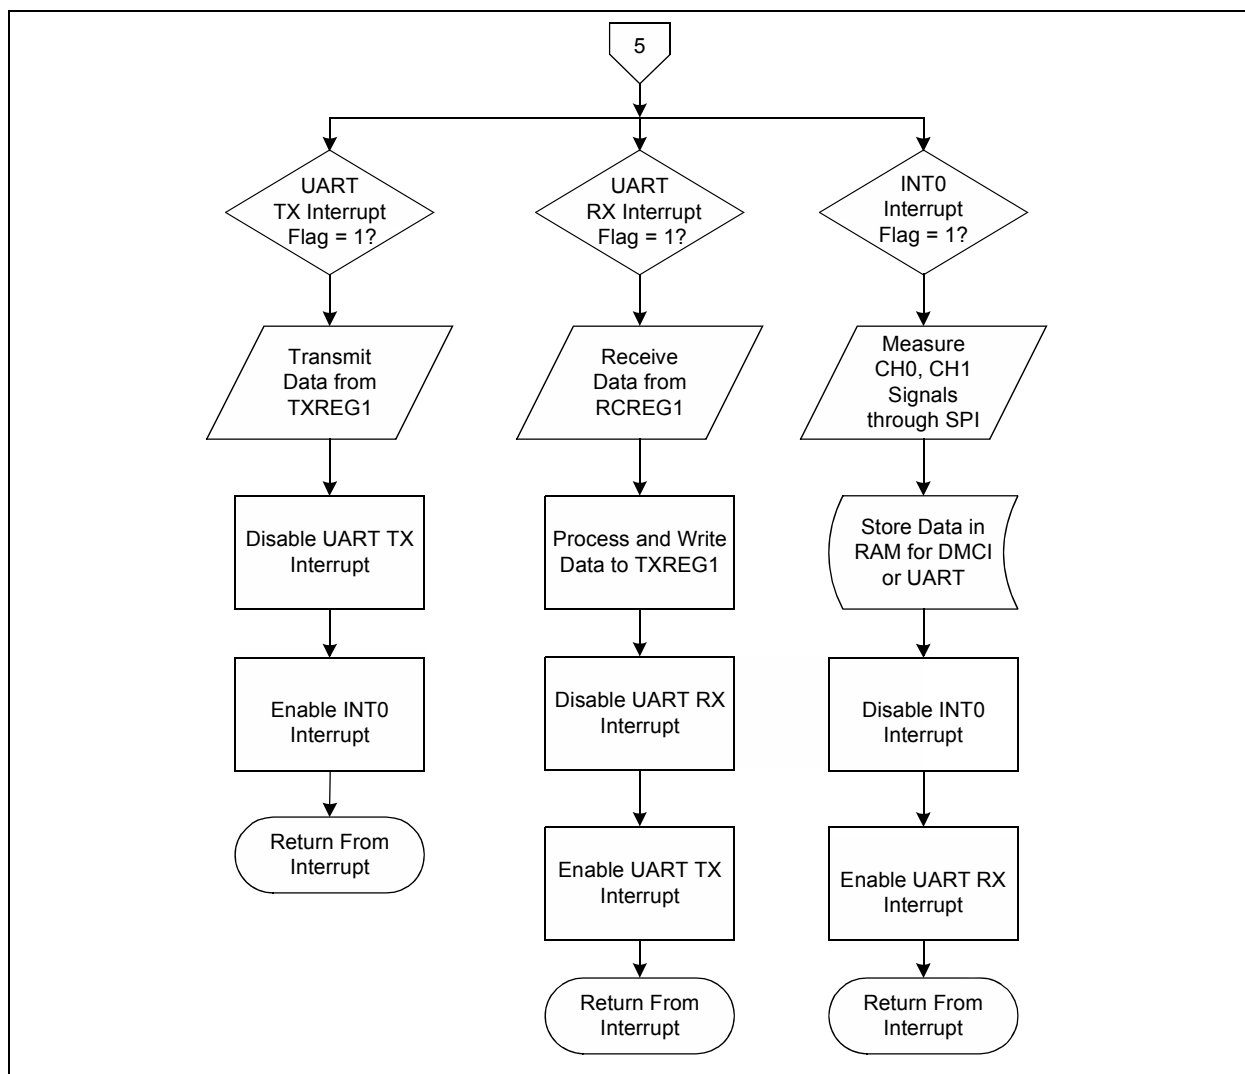

FIGURE 4-6: Interrupt Service Routine for UART and INT0 Interrupts.
- UART Transmit Interrupt routine (see Figure 4-6)
- UART Receive Interrupt routine (see Figure 4-6)
- INT0 Interrupt routine (see Figure 4-6)